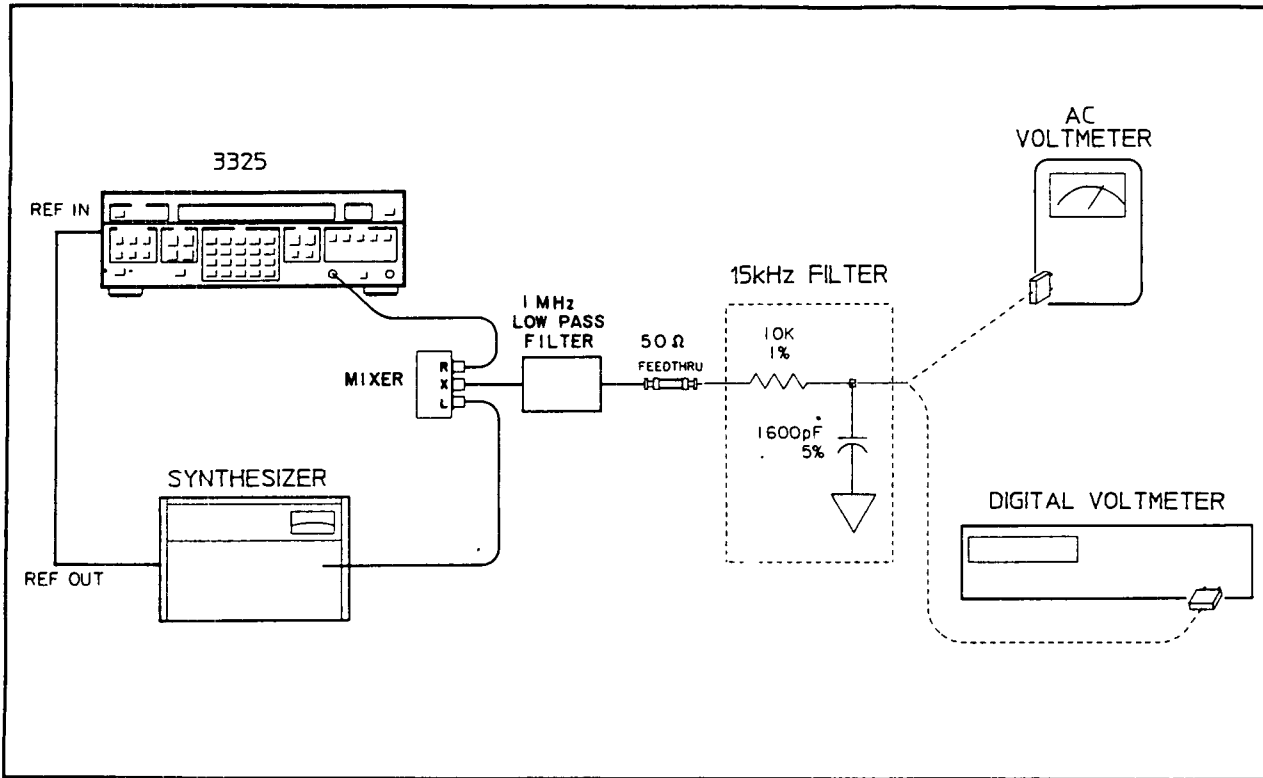

Figure 4-8. Integrated Phase Noise.
Capacitor: 1600 pF  $\pm$  5% (see figure 4-8)
- a. Connect the equipment as shown in figure 4-8, connecting the 15 kHz noise equivalent filter output to the ac voltmeter. Phase lock the HP 3325B and the signal generator together.